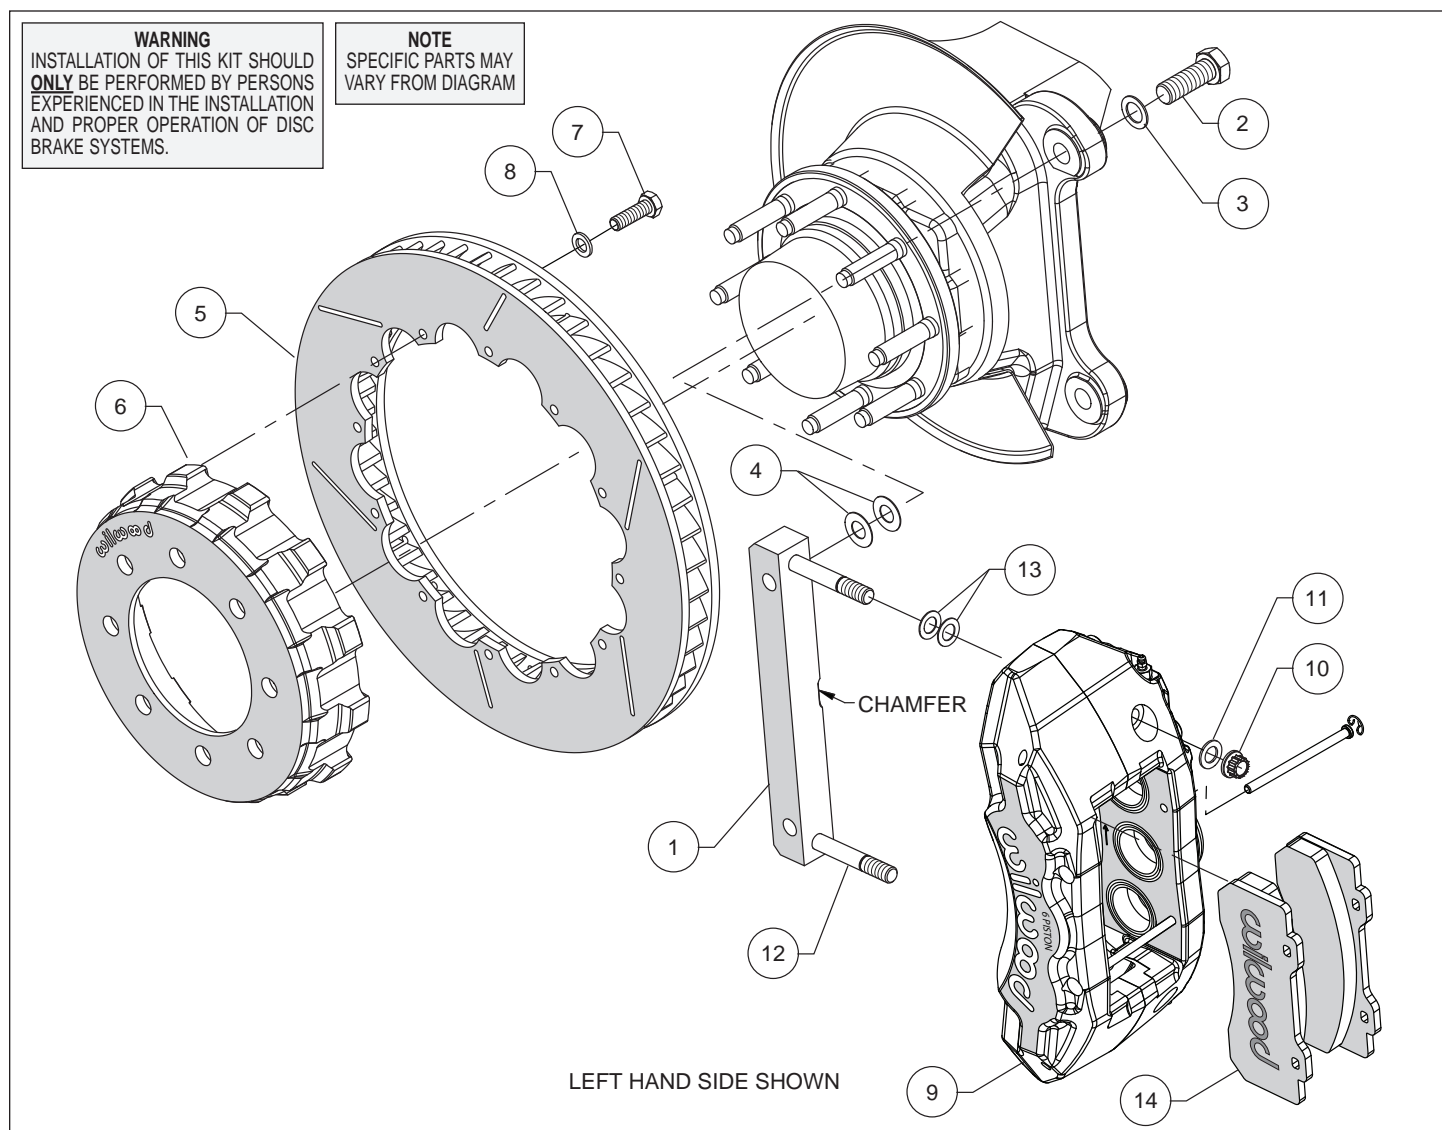
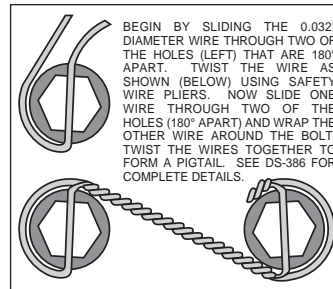

Figure 1. Typical Installation Configuration
Figure 3. Safety Wire Diagram
Assembly Instructions (numbers in parenthesis refer to the parts list and Figure 1 on the preceding pages):
- The caliper mount bracket (1) should initially be installed with clean, dry threads on the mounting bolts. Orient the bracket as shown in Figure 1 and Photo 1 with the chamfer facing inward, away from the wheel, and install using bolts (2) and washers (3). Initially place two .024 thick shims (4) on each bolt between the bracket and upright, Figure 1. Temporarily tighten the mounting bolts. **NOTE:** The bracket must fit squarely against the mount bosses on the upright. Inspect for interference from casting irregularities, machining ridges, burrs, etc. Later, after the caliper alignment has been checked, the mount bolts will be secured using red *Loctite*® 271.
- Orient the rotor (5) and the hat (6) as shown in Figure 1 and Photo 2. Attach rotor to hat using bolts (7) and washers (8). Using an alternating sequence, torque to 25 ft-lbs. For an added measure of security, the bolts may be safety wired using standard 0.032 inch diameter stainless steel safety wire as shown in Figure 3. Please refer to Wilwood's data sheet DS-386 (available at www.wilwood.com/Pdf/DataSheets/ds386.pdf) for complete safety wire installation instructions.
- NOTE:** This kit contains distinct right and left hand calipers that must be mounted in a specific direction, as described below. Lubricate the caliper mounting studs (12) with lightweight oil. Initially place two .032" thick shims (13) on each stud as shown in Figure 1 and Photo 3. Mount the caliper (9) onto the bracket (1) using lock nuts (10) and washers (11), Figure 1. Ensure that the caliper is mounted so that the largest pistons are at the rotor exit end of the caliper, in relation to the direction of rotor rotation. Temporarily tighten the lock nuts and view the rotor through the top opening of the caliper. The rotor should be centered in the caliper, Photo 4. If not, adjust by adding or subtracting shims (4) between the bracket and the upright. Always use the same amount of shims on each of the two mounting bolts. Once the caliper alignment is correct, remove the bracket mounting bolts (2) one at a time, apply red *Loctite*® 271 to the threads, and torque to 120 ft-lb.